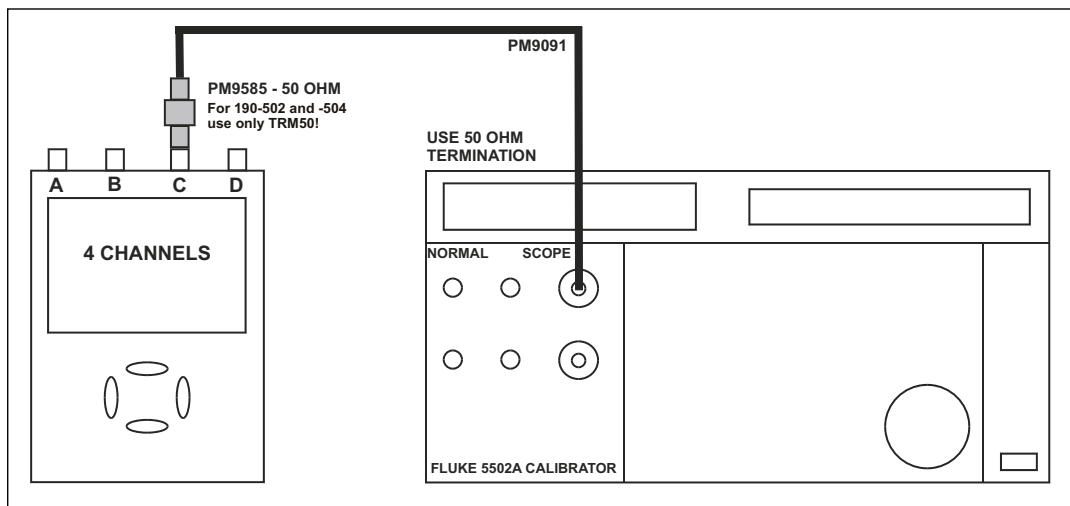

Figure 4-9. 5502A Scope Output to Test Tool Input C
1. Connect the Test Tool to the 5502A as shown in Figure 4-9.